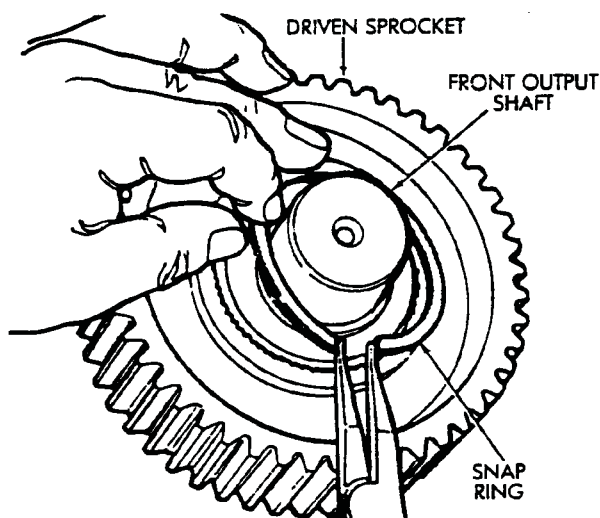

Fig. 4-13 Remove Snap Ring and Driven Sprocket
18. Remove snap ring retaining driven sprocket on front output shaft (Fig. 4-13). Mark sprocket and shaft for reference and remove the sprocket.